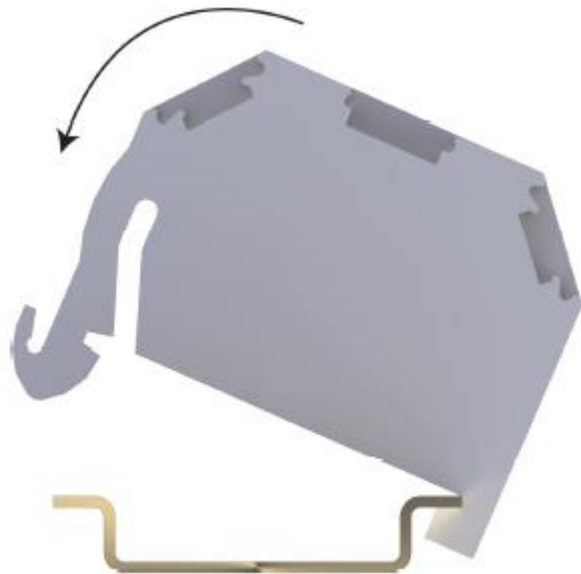
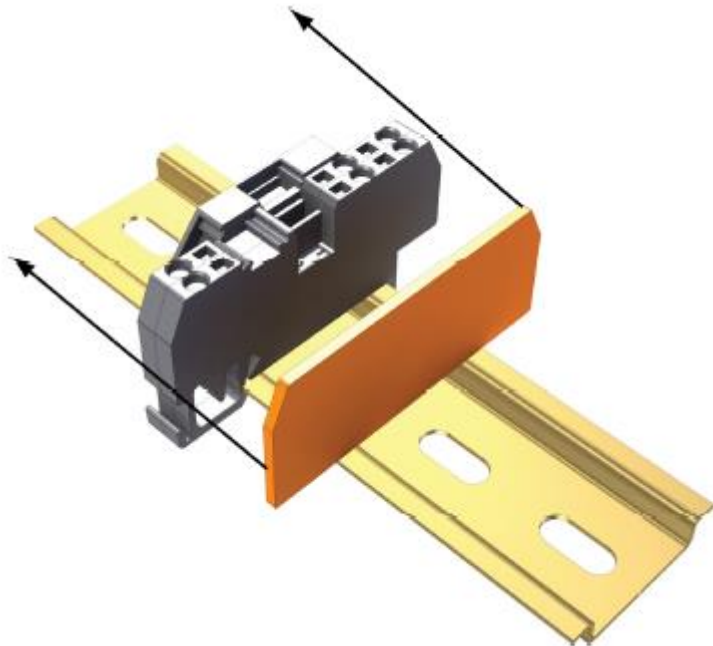

Figure A-1. #15908 DIN-Rail Stopper installation
Figure A-3. #15907 End Plate installation
1. Mount the #15908 DIN-Rail Stoppers, #15920 Terminal Strips, and #15907 End Plates onto the DIN-Rail Bracket (see Figure A-1 through Figure A-3).